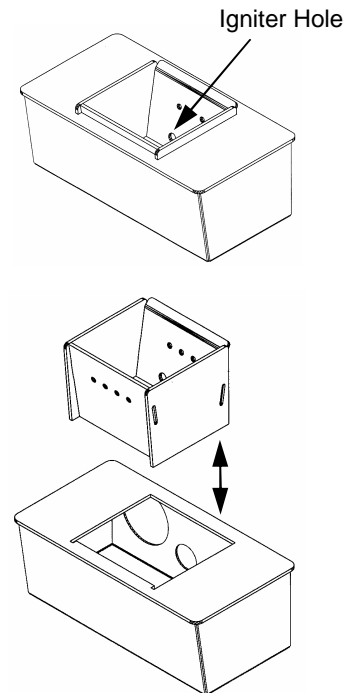

FIGURE 23
- Open door and remove the optional imitation log set, if in use. Remove the burnpot inner section by grasping it and pulling straight up (see Figure 23).
- Replace inner section into burnpot; make sure it is level and pushed all the way back down and that the igniter hole is to the rear when it is reinstalled (see Figure 23).